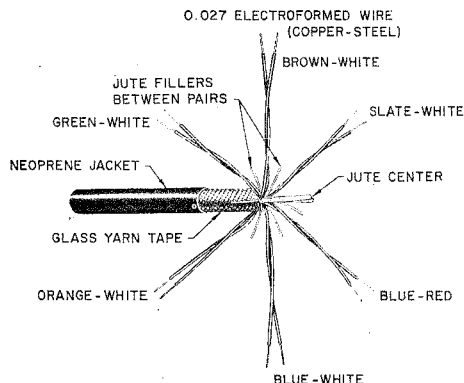

Fig. 1 — C Multiple Drop Wire (Present Design)
2.03 Fig. 1 illustrates the details of Z multiple drop wire.